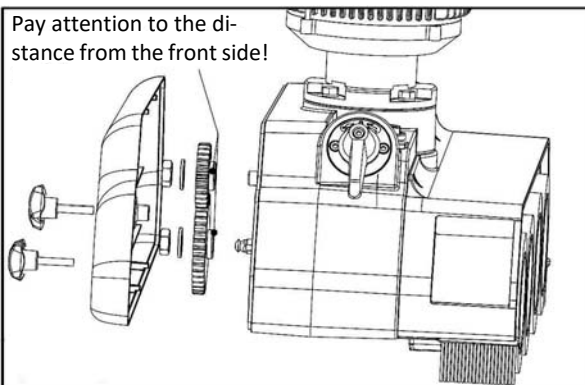

Fig. 41: Changing the gear wheel
Step 1: Unscrew the two screws from the gear housing (Fig. 41) and remove the gear cover.
The front side of the gears must face the housing (Fig. 41), otherwise the drive could be damaged.